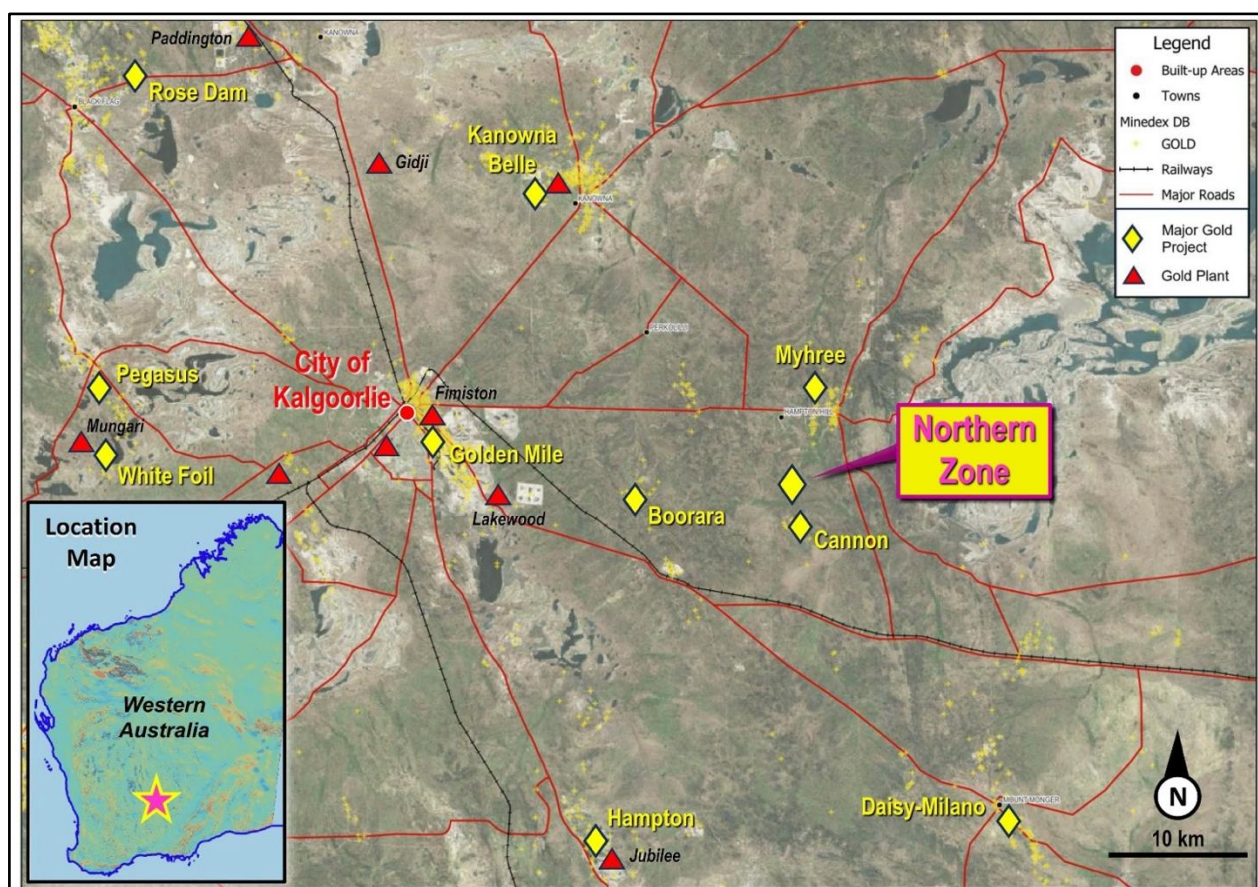

Figure 1: Northern Zone Project Map showing proximity to the Kalgoorlie "Super Pit", Golden Mile/Fimiston.
Riversgold Limited (ASX: RGL, Riversgold or the Company) is pleased to announce assay results from the first six drillholes, from the recently completed vertical Grade Control (GC) drilling program at the Northern Zone Intrusive Hosted Gold Project, located 25 km east of Kalgoorlie in Western Australia (refer to **Figure 1** for location). Results from a further 15 drillholes from the GC program are still to be assayed, with results expected in the near term, and the Company is currently 12 holes into our November 40-hole drilling program.